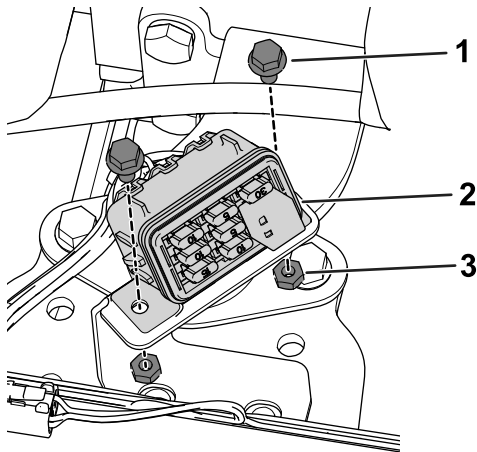

Figure 16
3. Use 2 flange bolts (M6) and 2 locknuts (M6) to secure the fuse block to the fuse block mount (Figure 16).